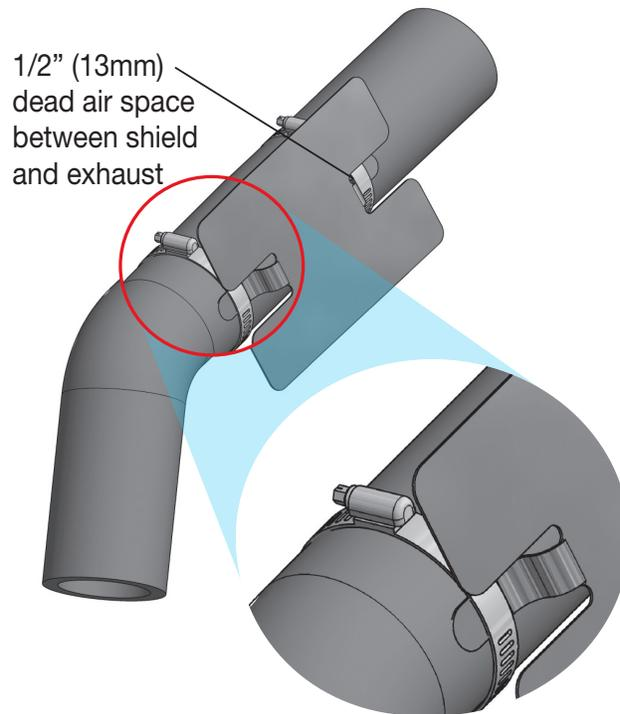

Fig. 32
1. Bend tabs to provide a dead air space between exhaust pipe and heat shield. (Fig. 32) Attach the heat shield to the exhaust pipe using the clamps. Bend the heat shield for maximum clearance to the air spring.